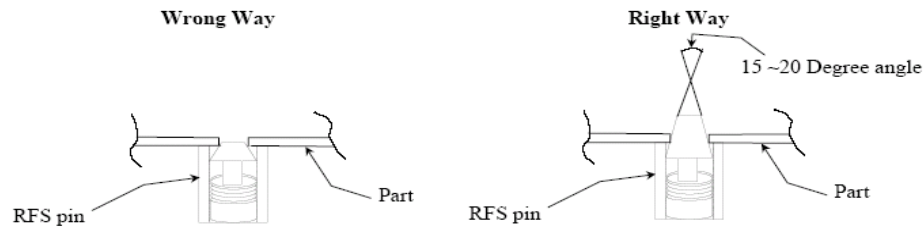

Figure 16
- All four-way and two-way location pins shall use RFS pin locators, unless otherwise specified. (See Figure 16)